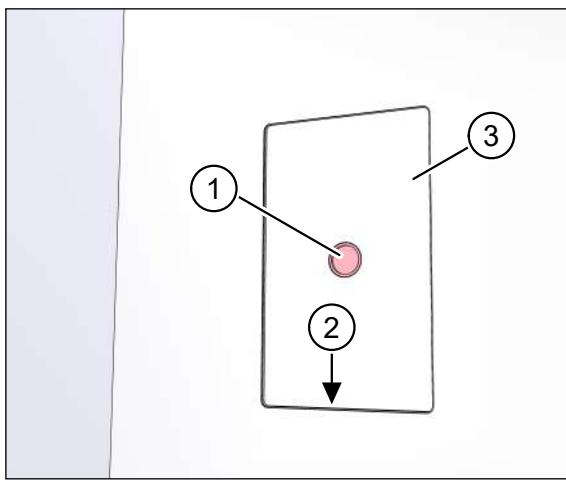

Fig. 38: Installation kit plastered on the inside
- ▶ Remove the signal cover (item 1 in Fig. 38).
- ▶ Use a blade to score the plaster on the inside of the plastering trim (item 2 in Fig. 38).
- ▶ Carefully remove the plaster cover (item 3 in Fig. 38) and the cardboard insert behind it.